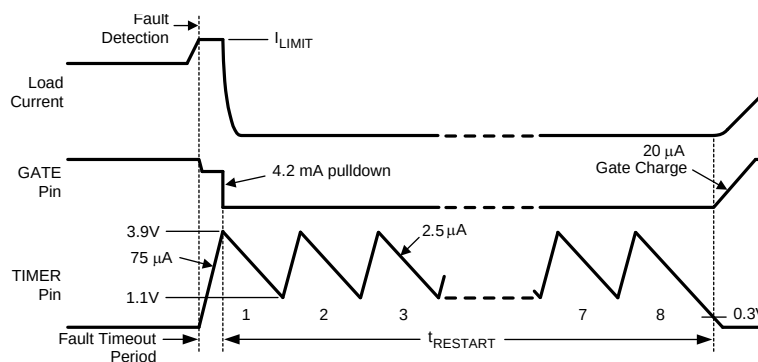

Figure 4. Restart Sequence
The LM5066 provides an automatic restart sequence which consists of the TIMER pin cycling between 3.9V and 1.1V seven times after the Fault Timeout Period, as shown in Figure 4. The period of each cycle is determined by the 75 μ A charging current, and the 2.5 μ A discharge current, and the value of the capacitor C_T . When the TIMER pin reaches 0.3V during the eighth high-to-low ramp, the 20 μ A current source at the GATE pin turns on Q_1 . If the fault condition is still present, the Fault Timeout Period and the restart sequence repeat. The $\overline{\text{RETRY}}$ pin allows selecting no retries or infinite retries. Finer control of the retry behavior can be achieved through the DEVICE_SETUP (D9h) register. Retry counts of 0, 1, 2, 4, 8, 16 or infinite may be selected by setting the appropriate bits in the DEVICE_SETUP (D9h) register.
C) Restart Timing For the LM5066, after the Fault Timeout Period described above, C_T is discharged by the 2.5 μA current sink to 1.1V. The TIMER pin then cycles through seven additional charge/discharge cycles between 1.1V and 3.9V as shown in Figure 4. The restart time ends when the TIMER pin voltage reaches 0.3V during the final high-to-low ramp. The restart time, after the Fault Timeout Period, is equal to: